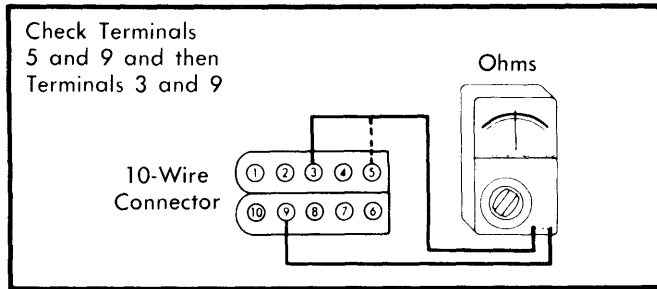

Fig. 12 Ohmmeter Hookup for Checking Pick-Up Coil Resistance
10) Turn ignition switch off. Attach ohmmeter leads to terminals 5 and 9 of 10-wire harness connector to check run pick-up coil resistance and to terminals 3 and 9 to check start pick-up coil resistance. See Fig. 12. Resistance should be 150-900 ohms. If so, proceed to step 12).